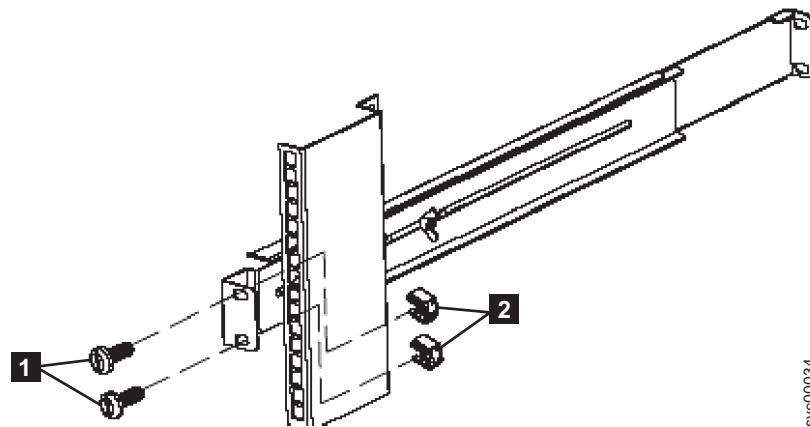

Figure 215. Removing the rear rail on the 2145 UPS-1U
5. Remove the two M6 × 10 screws from the rear side of the rail (**1** in Figure 215) and the two clip nuts (**2**).